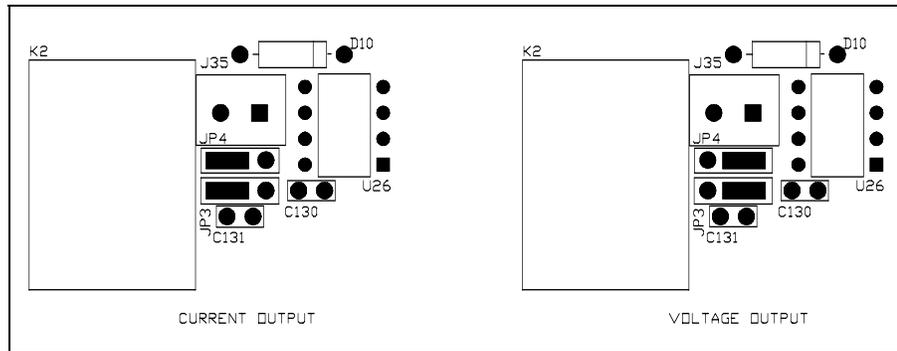

FIGURE 4.2- ANALOG OUTPUT JUMPERS
3. Set Jumpers JP3 and JP4 on the rear panel PCB assembly as shown in Figure 4.2 below.